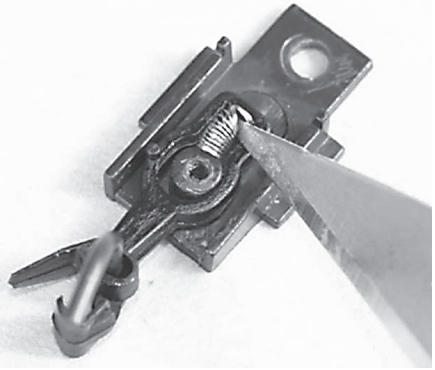

Figure 27 - Re-assemble the Kadee Coupler
7. Take the short pocket and re-assemble the Kadee coupler by placing the coupler halves over the round pin in the pocket. With the tip of the X-Acto knife, spear the spring between the coils and wedge it between the round pin in the coupler pocket and the rear of the coupler halves (See Figure 27).